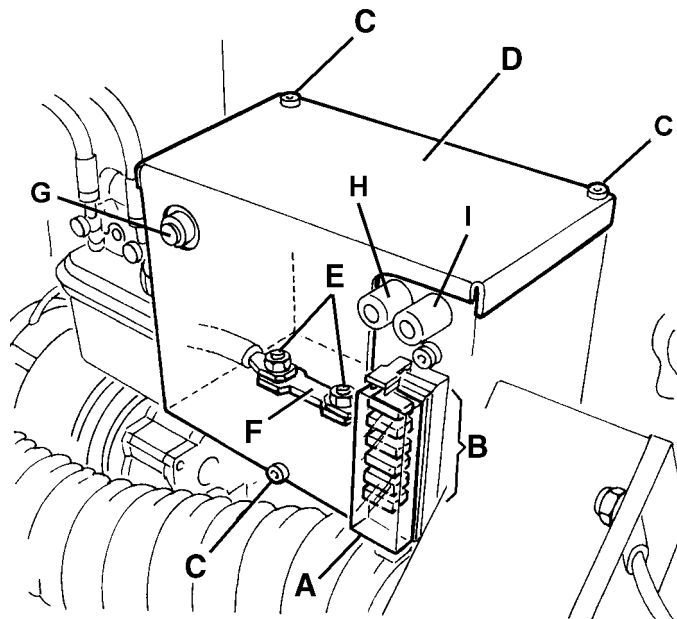

Figure 28
5. Remove the cover (A, Fig. 28).
6. Check/replace the relevant fuse among the following (B, Fig. 28):
7. Remove the screws (C, Fig. 28), then remove the cover (D).
8. Remove the nuts (E, Fig. 28).
9. Remove the F0 main fuse (150 A) (F, Fig. 28).
- F7 fuse (H, Fig. 28): Right side broom motor circuit breaker
- F8 fuse (I, Fig. 28): Left side broom motor circuit breaker (optional)
- F9 fuse (G, Fig. 28): Main broom motor circuit breaker